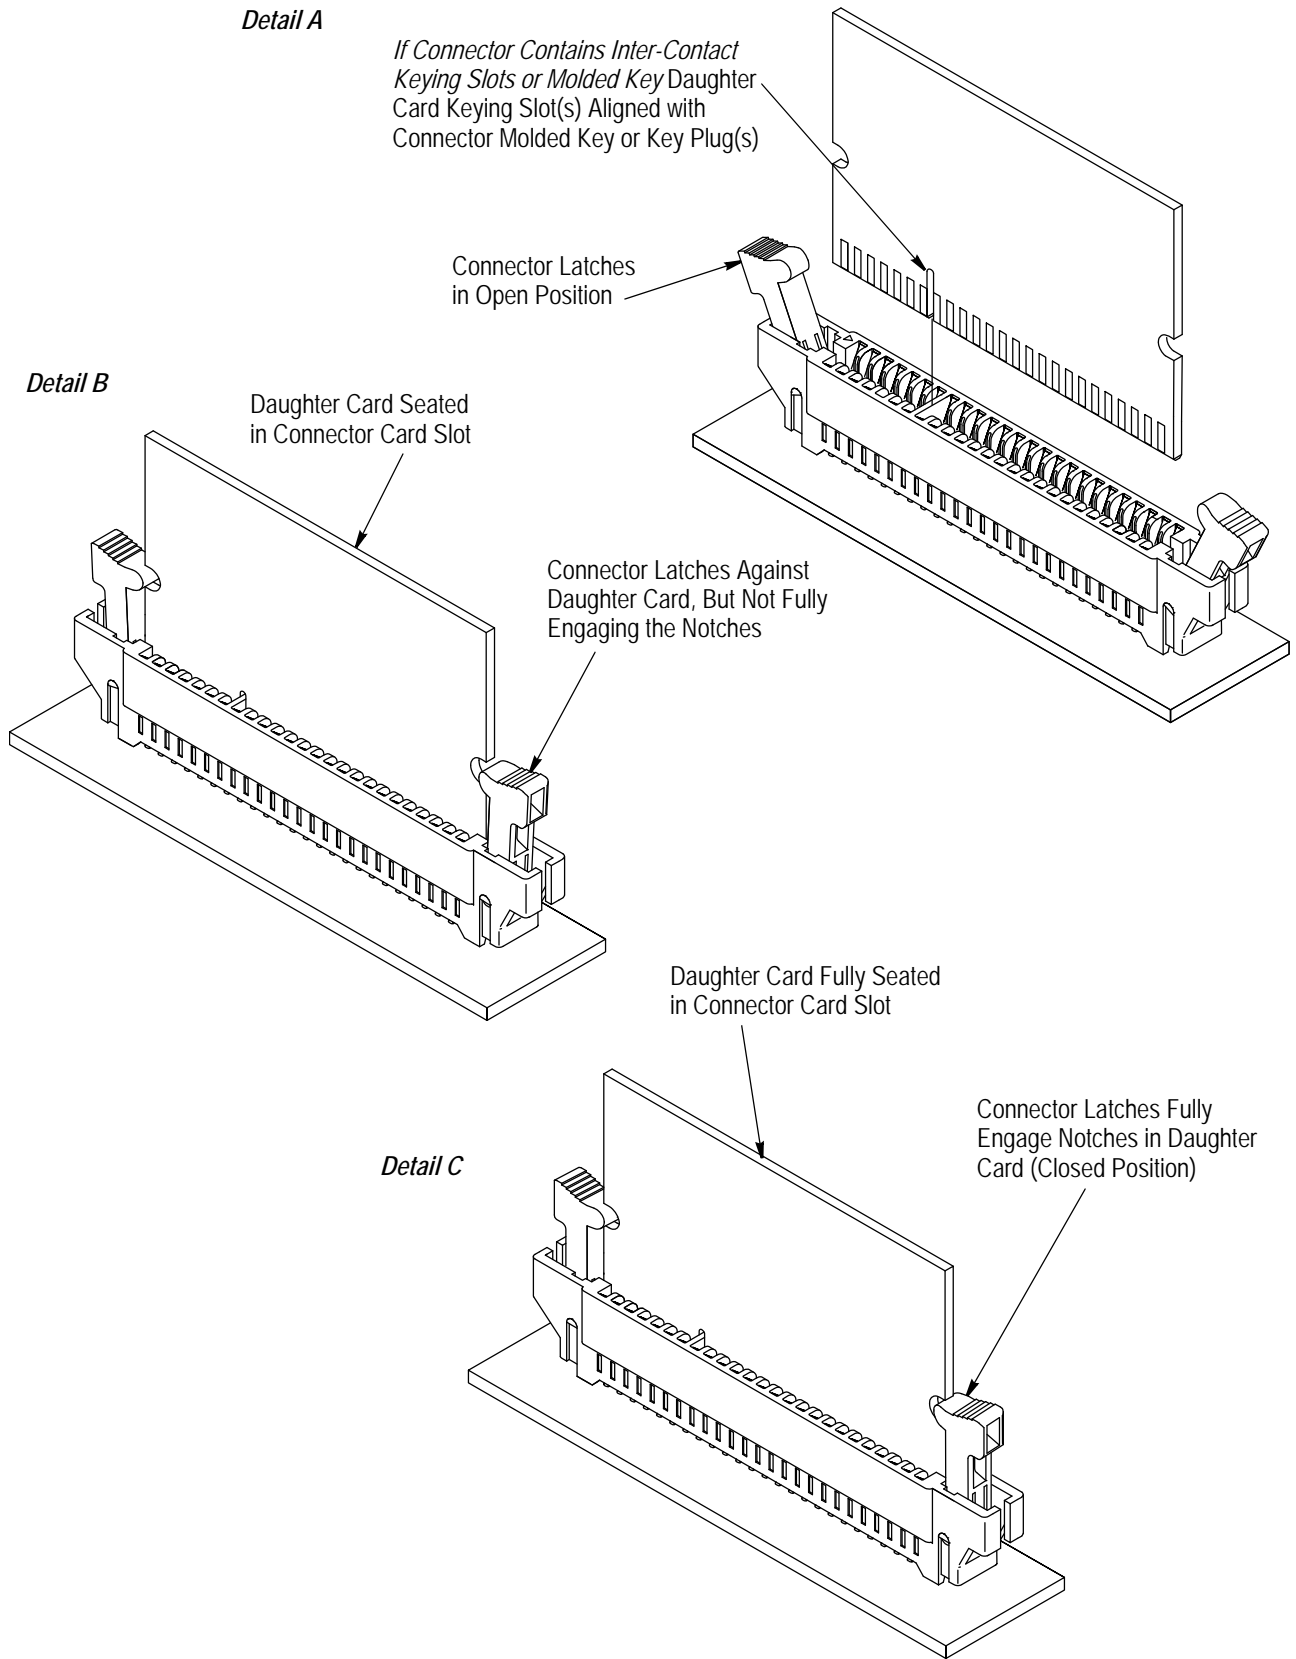

Figure 13
1. The connector locking latches must be in the open position (each latch is designed to rotate only 25° from the end of the connector). Refer to Figure 13, Detail A.
3. The daughter card must be inserted straight into the connector card slot until the card is seated. The connector locking latches must be against the daughter card, but not fully engaging the notches of the card. Refer to Figure 13, Detail B.